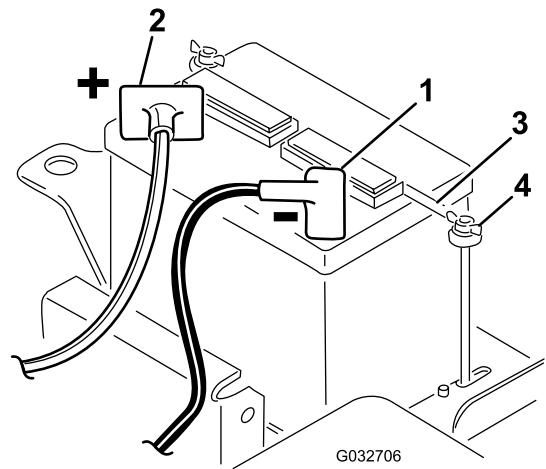

Figure 5
2. Connect the positive battery cable (red) from the starter solenoid to the positive post (+) of the battery (Figure 5). Secure it with a carriage bolt and nut.
5. Install the battery clamp and washers and secure them with wing nuts (Figure 5).